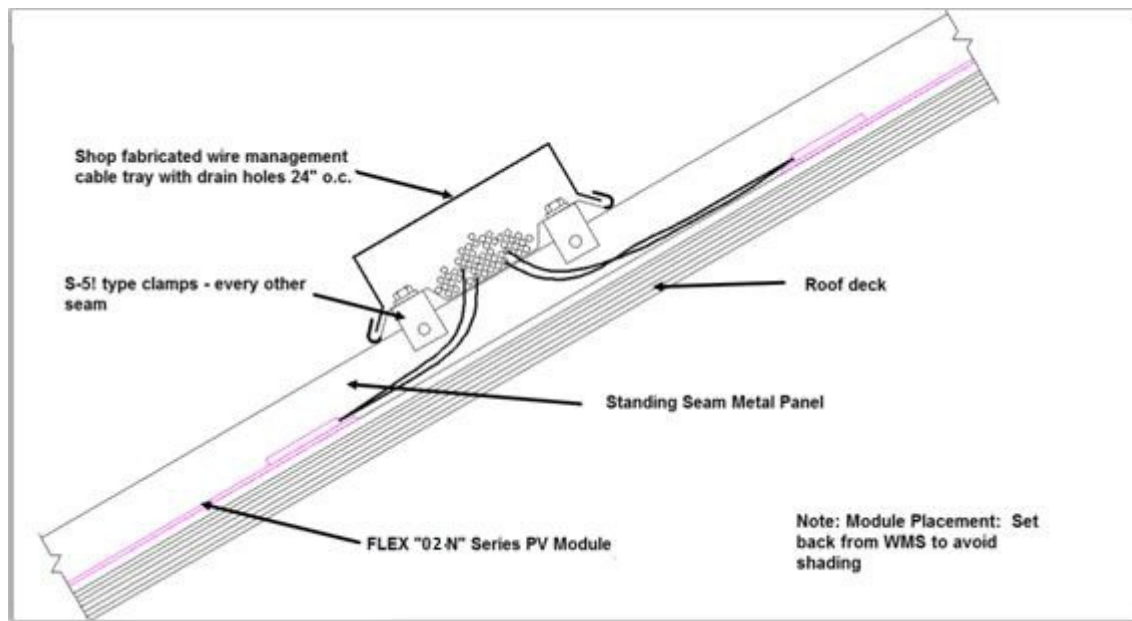

Figure 16. Mid-roof contractor fabricated wire management tray.
- Large roofs with long and multiple metal panel runs will have multiple rows without ridge or eave access. A mounted wire cover tray can be used to conceal the wire string runs. Typically, these are fabricated from the same metal used on the metal roof. On steep roof slopes down to 15° (3/12) full-length contractor fabricated trays and covers can be installed as shown in **Figure 16**.